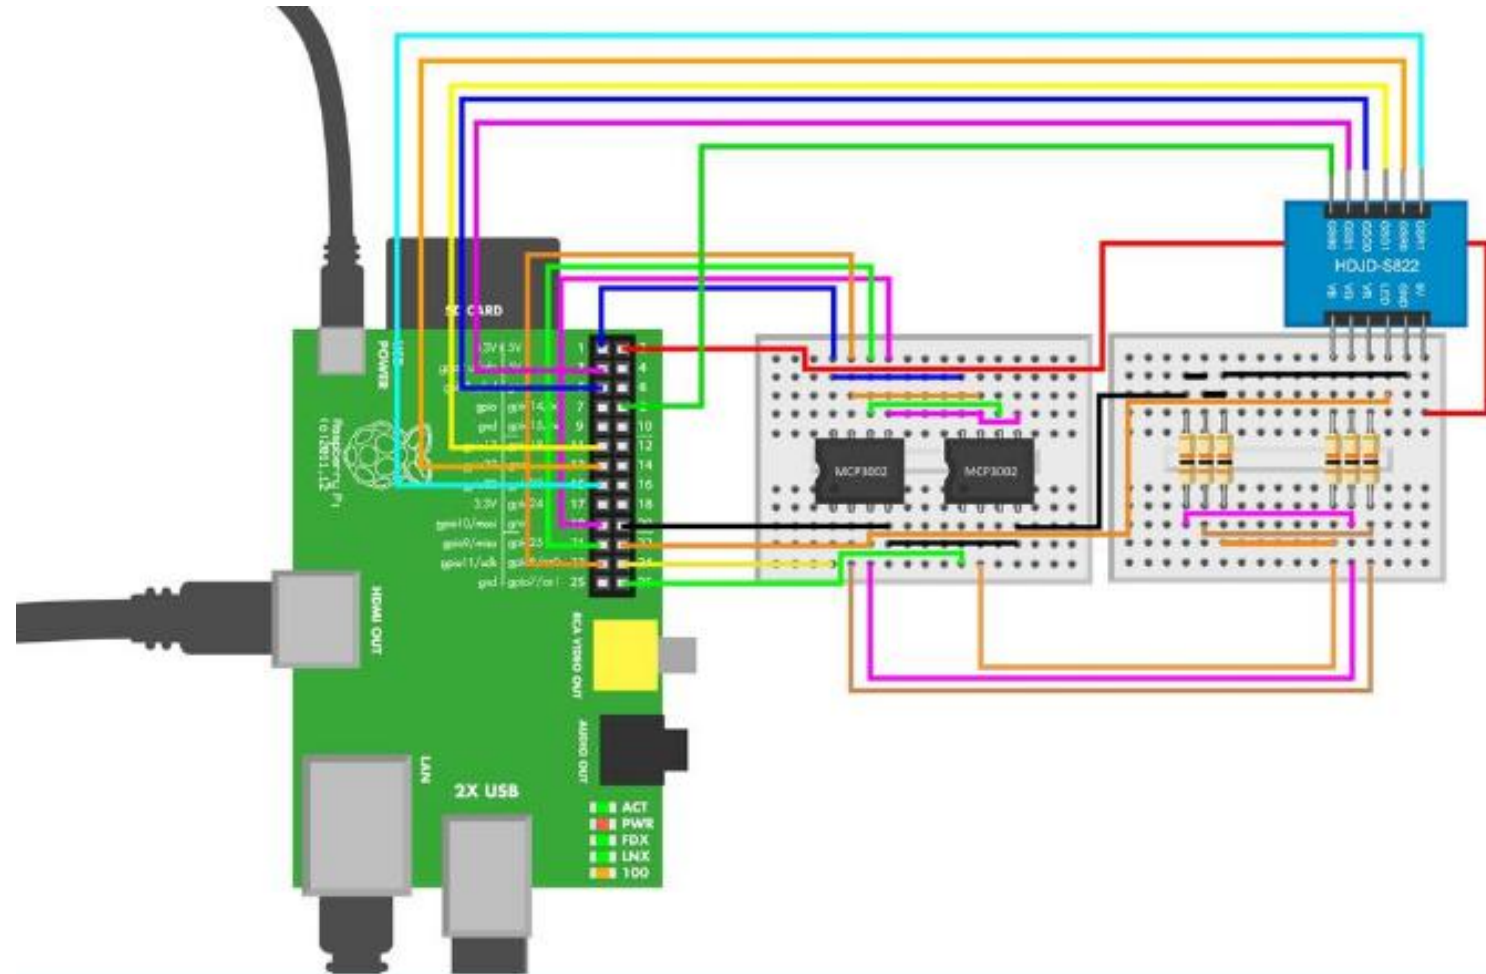

Figure 7-21. Color sensor circuit for Raspberry Pi makes your head spin
- Figure 7-21 shows the circuit for Raspberry Pi. Hook it up as shown, and then run the code shown in Example 7-9.